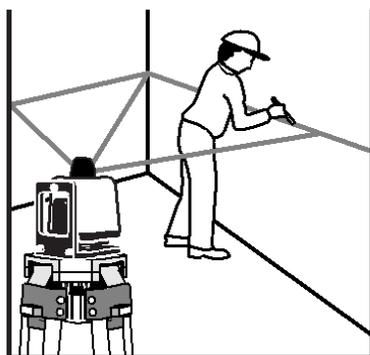

Fig. 3
3. Turn power on and press the control button once for “FAST” speed (ideal for use outdoors with a laser detector), or twice for “SLOW” speed (ideal for indoor use). You have created a highly visible, level reference line (Fig. 3).